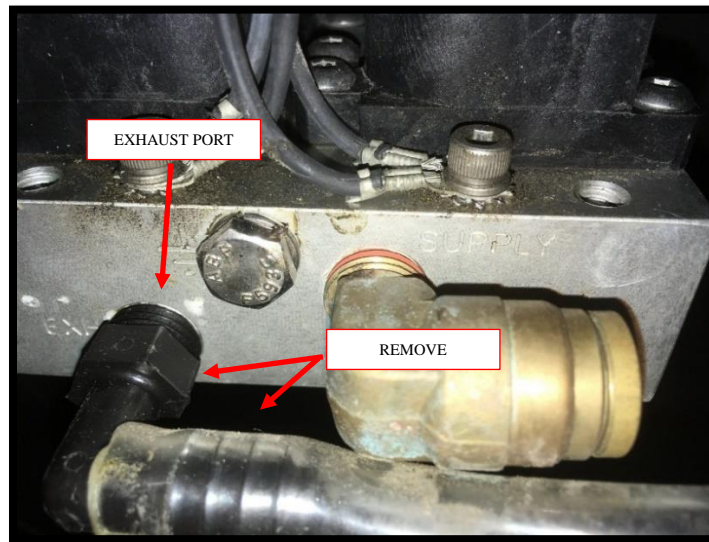

FIG. 10-1
40. Remove any existing components from exhaust port labeled EXH. Refer to FIG. 10-1.